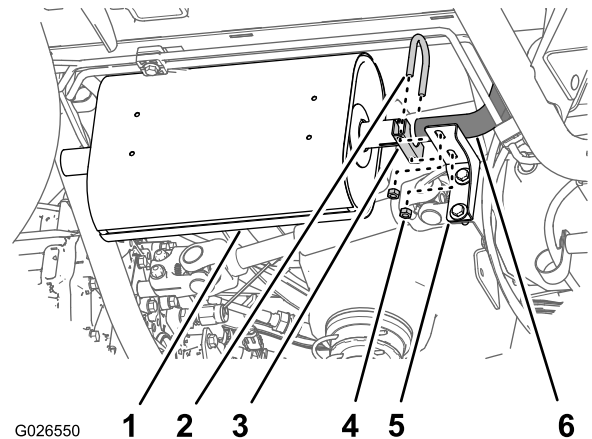

Figure 5
- Remove the 2 nuts, U-bolt, and saddle bracket that secure the inlet pipe of the muffler and Y-pipe to the forward-muffler support. (Figure 5).